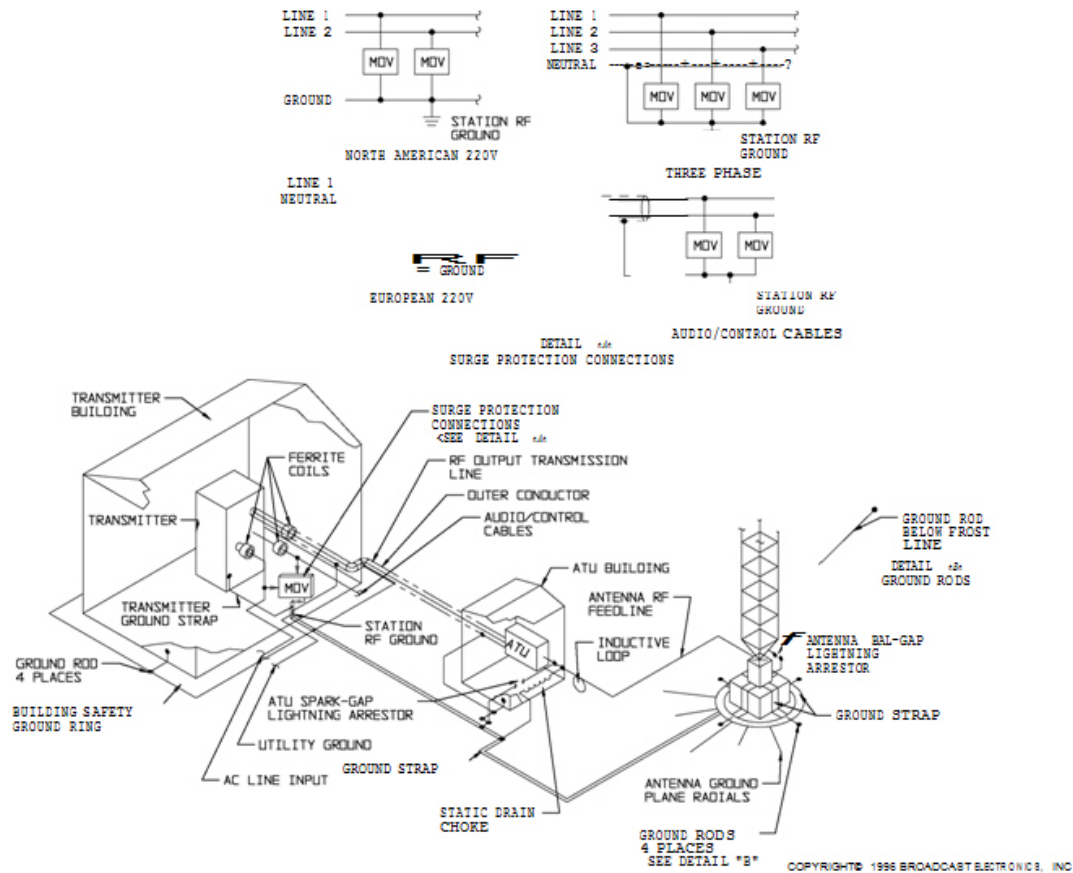

Figure 2-10 Antenna Lightning Protection System
- A. **ANTENNA BALL-GAP LIGHTNING ARRESTOR.** Each tower in the antenna system must be equipped with a ball-gap lightning arrestor (refer to Figure 2-10). The ball-gap arrestor is designed to safely conduct lightning potentials to ground. Inspect the ball-gap arrestors by performing the following procedures.
- B. **ANTENNA-TUNING-UNIT SPARK-GAP LIGHTNING ARRESTOR.** The antenna-tuning-unit (ATU) must be equipped with a spark-gap lightning arrestor (refer to Figure 2-10). The spark-gap arrestor can be: 1) a ball-gap type, or 2) a horn type. Adjust the spark-gap for the smallest possible gap without arcing during peak modulation activity.
- C. **TRANSMITTER SITE GROUNDING SYSTEM.** The transmitter site grounding system must be properly connected for reliable transmitter operation. A typical transmitter site grounding system is shown in Figure 2-10. Perform the following procedures to ensure the grounding system connections are secure.
- D. **CABLE PROTECTION.** The ac line cable, audio/control cables, and the RF output transmission line require a combination of MOV and ferrite core protection to prevent the entry of lightning potentials (refer to Figure 2-10). Refer to the following text to install MOVs and ferrite cores to prevent the conductance of lightning potentials.
- MOV. Refer to Figure 2-10 and ensure MOVs are connected from the ac line and audio/control cable conductors to the station RF ground as shown. The MOVs should be rated for 20,000 Ampere surges (BE P/N 140-0021).
- **Ferrite Core.** The ac line cable, the audio/control cables, and the RF output transmission line also require the placement of ferrite cores. The cores are designed to create a high impedance for undesired current paths such as lightning. Ferrite cores for placement on ac line, audio/control, and output transmission line cables are located in the accessory parts kit. Locate the ferrite cores in the accessory kit. Refer to Figure 2-10 and install the cores by performing the following procedures.